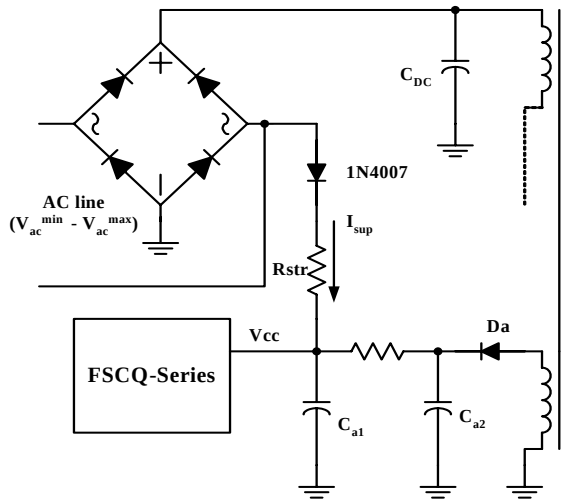
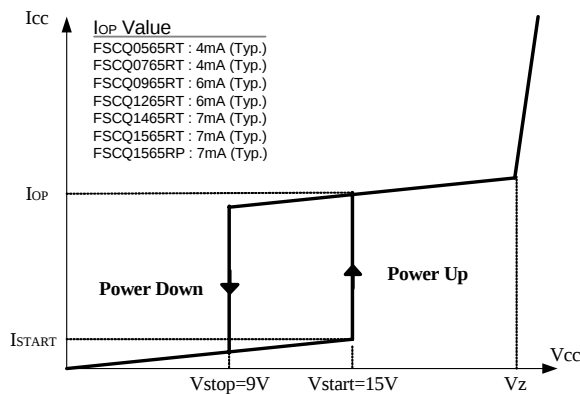

Figure 4. Startup circuit
Figure 5. Relationship Between Operating Supply Current and Vcc Voltage
1. **Startup:** Figure 4 shows the typical startup circuit and the transformer auxiliary winding for the FSCQ-Series. Before the FSCQ-Series begins switching, it consumes only startup current (typically 25uA). The current supplied from the AC line charges the external capacitor (C_{a1}) that is connected to the Vcc pin. When Vcc reaches the start voltage of 15V (V_{start}), the FSCQ-Series begins switching, and its current consumption increases to I_{OP} . Then, the FSCQ-Series continues its normal switching operation and the power required for the FSCQ-Series is supplied from the transformer auxiliary winding, unless Vcc drops below the stop voltage of 9V (V_{stop}). To guarantee the stable operation of the control IC, Vcc has under voltage lockout (UVLO) with 6V hysteresis. Figure 5 shows the relationship between the operating supply current of the FSCQ-Series and the supply voltage (Vcc).